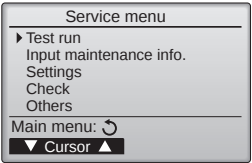

Fig. 7-3
- ③ Select "Test run" with the  or  button, and press the  button. (Fig. 7-3)